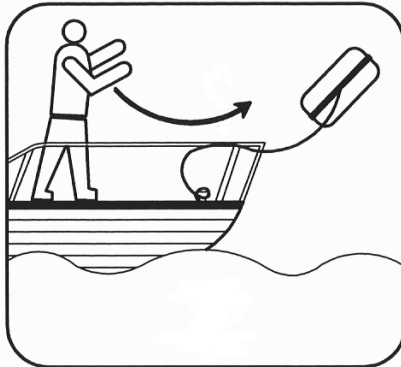

FIGURE 3
7. Throw the packed raft overboard into the water (See Figure 3). Try to keep the top of the valise or container facing up. The liferaft will float while still packed in its valise or container.